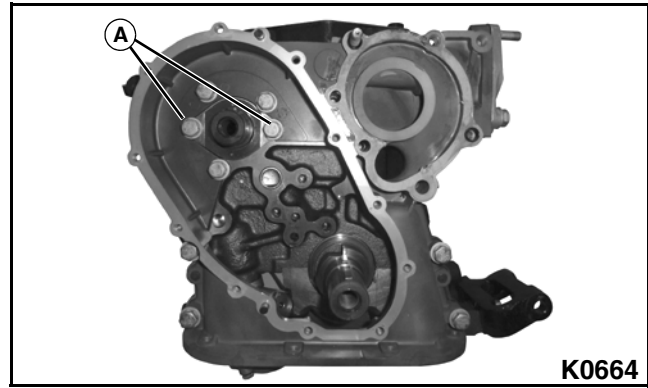

Figure 3-181
2. Install the camshaft thrust plate to the cylinder block, using two bolts, lock washers, and flat washers (A). See Figure 3-181.